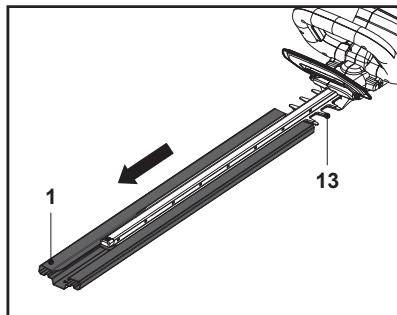

Fig. 1
1. Remove the blade cover (1) from the cutting device (blade) (13) before operation (Fig. 1).
2. Keep the blade cover (1) safely.